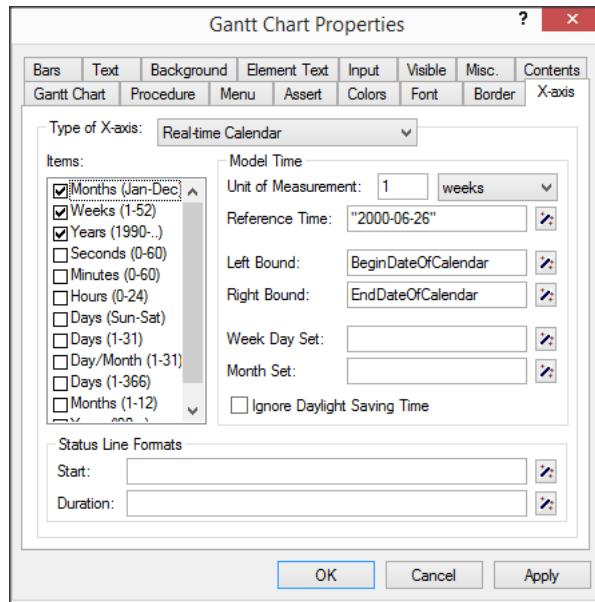

Figure 12.20: The **X-axis** tab of the **Gantt Chart Properties** dialog box
- ▶ check 'Weeks', 'Months' and 'Years' as in Figure 12.20,